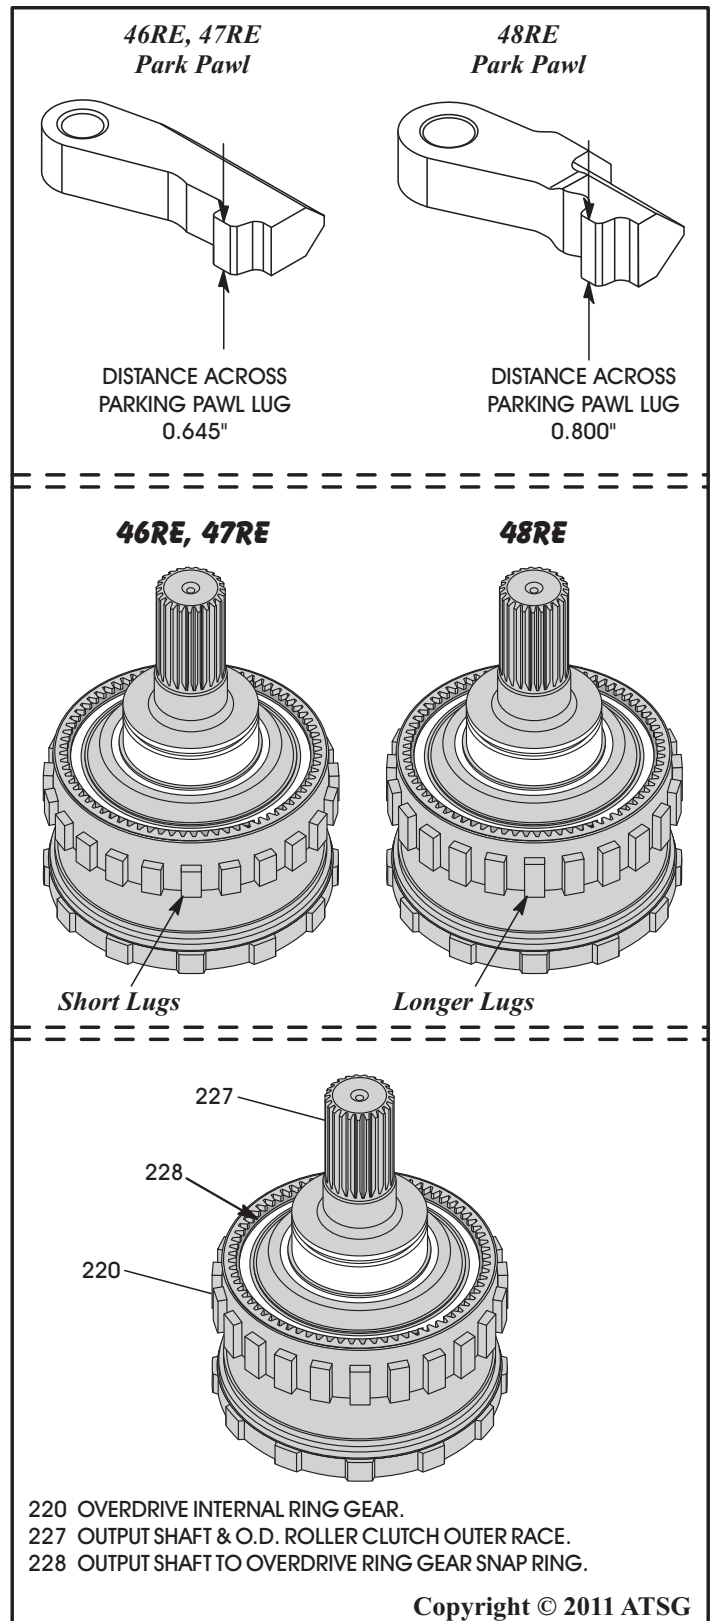

Figure 169
**Caution:** *If it becomes necessary to replace the overdrive ring gear, pay close attention to the parking pawl lugs on the replacement part. The parking pawl thickness was increased on the 48RE units because of increased vehicle GVW. This required wider park pawl lugs, which are part of the overdrive ring gear, as shown in Figure 169. Refer to Page 106 for additional parking linkage dimensional changes.*